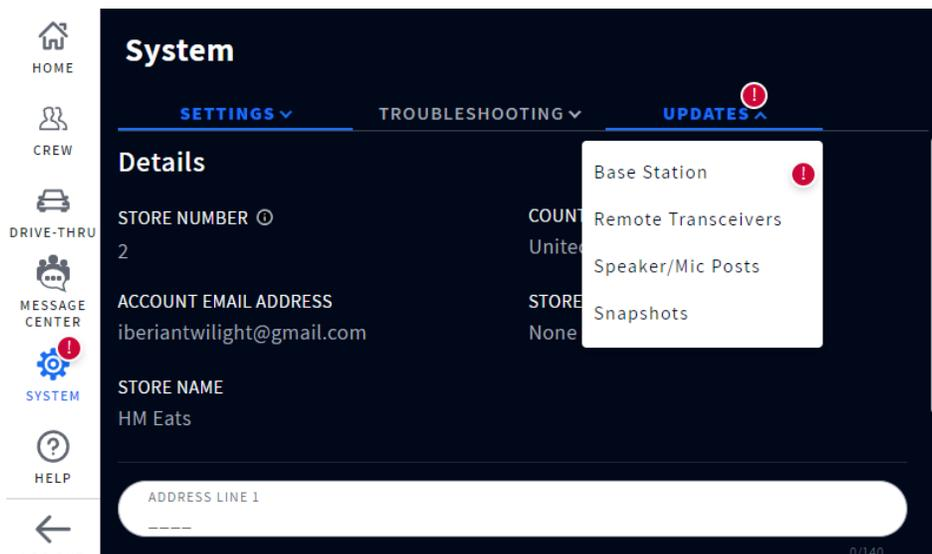

Fig. 5.3
2. Tap on the UPDATES tab. In this example, the Base Station option requires attention. See Fig. 5.3.